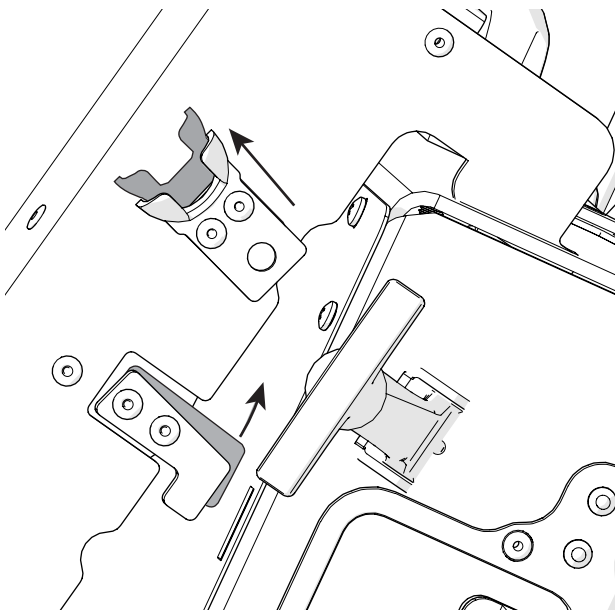

Fig. 4-3
4. The lower mounting tab moves in and out as the pull hook mounting socket is pulled out (Fig. 4-3). Tilt the base mount downward so that the lower tabs insert into the carriage slots.